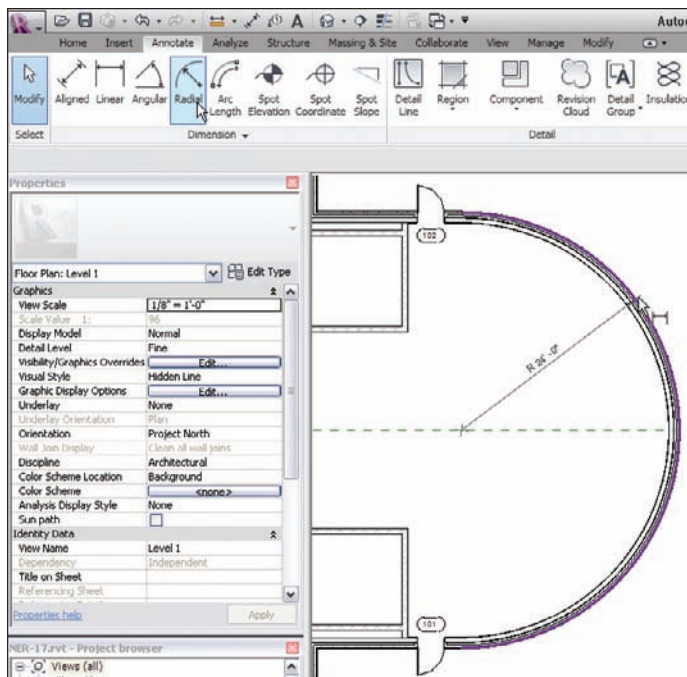

FIGURE 5.21 Adding a radial dimension is about as straightforward as it gets.
3. Pick the outside face of the radial wall, as shown in Figure 5.21.
4. Place the radial dimension somewhere that makes sense. If your model looks like Figure 5.21, you may proceed. If it does not, go back and try it again.